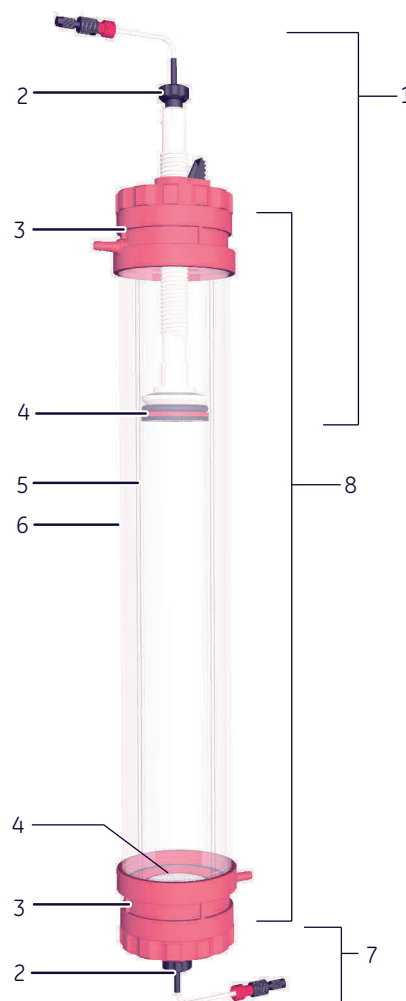
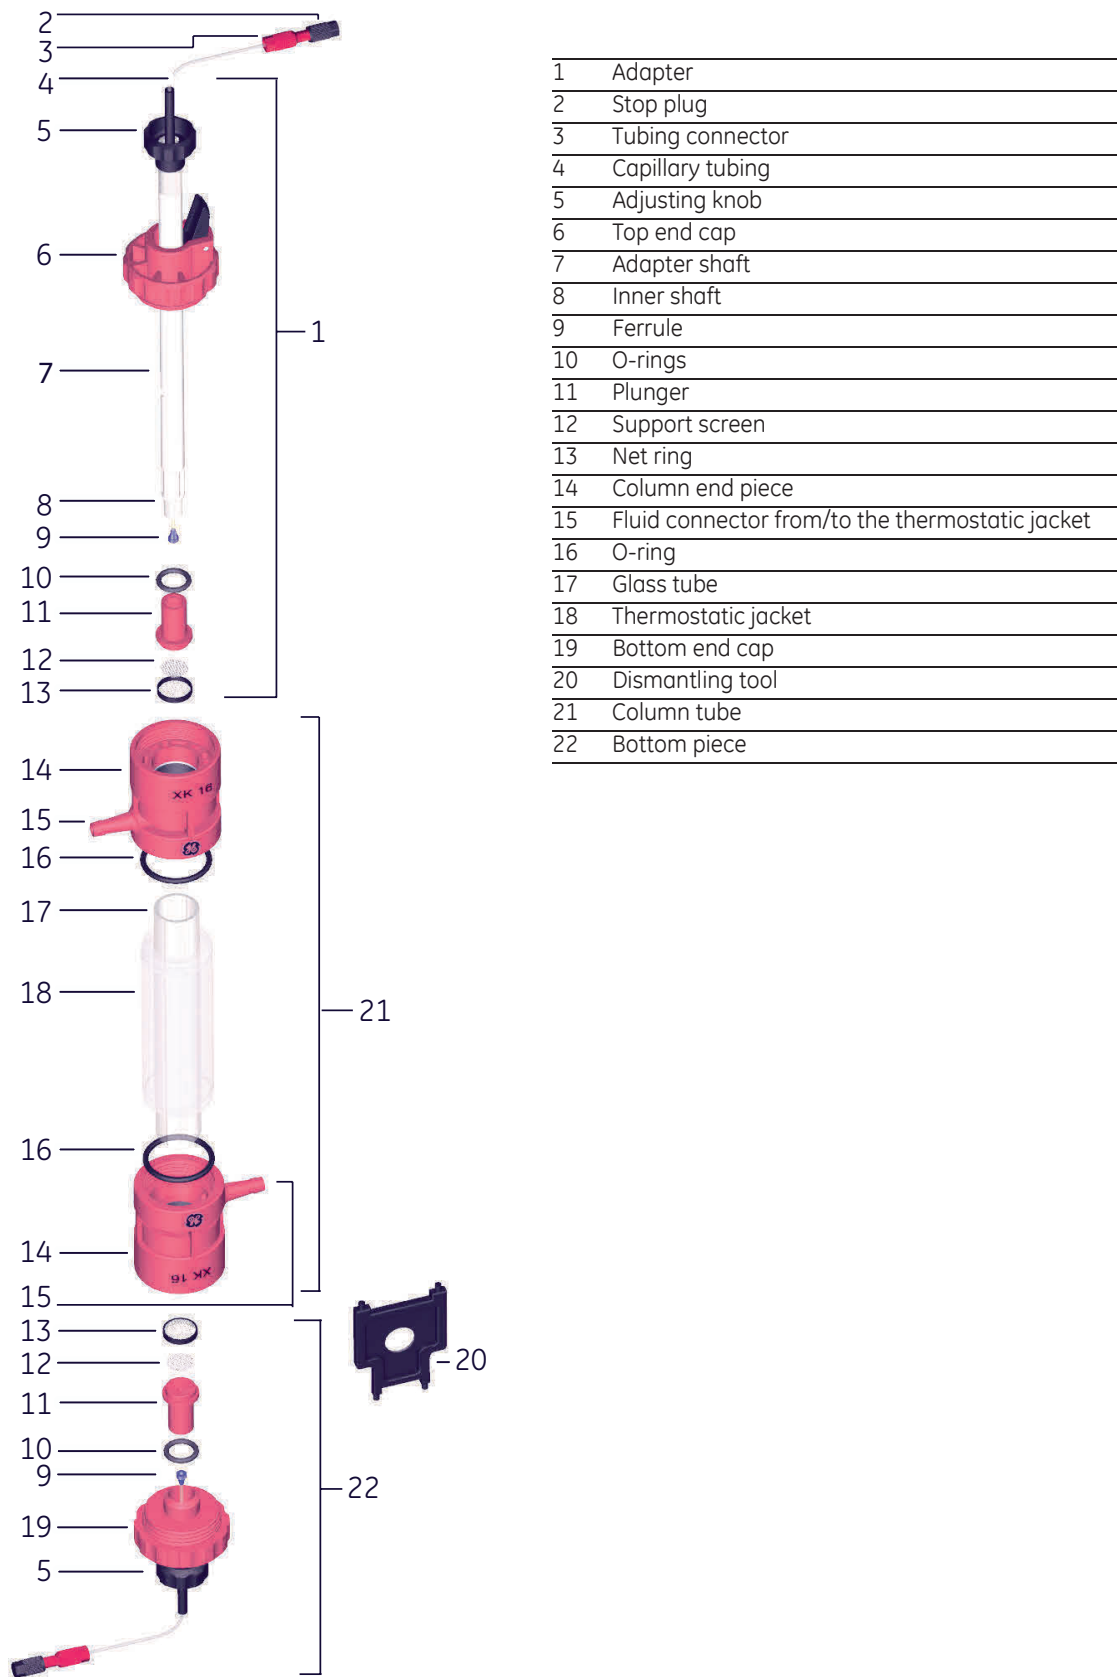

Fig. 1 XK adapter with an XK column.
Fig. 5 Exploded view of XK column with XK adapter.
The main parts of the column are shown in Figure 1. For a detailed view of the column parts, see the exploded view, Figure 5 on page 5.
See Figure 5 for details.
- 3 Screw the bottom piece (7) into the column end piece (3) (Fig 1).